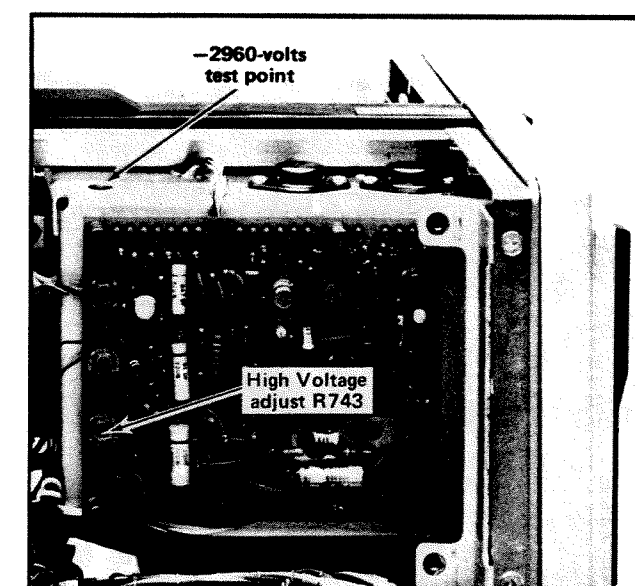

Fig. 5-6. Location of -2960 Volts test point and High Voltage adjustment R743.
b. Connect the DC voltmeter (VOM) between the high voltage test point (see Fig. 5-6) and ground.³
e. ADJUST—High Voltage. R743 (see Fig. 5-6) for a meter reading of -2960 volts.